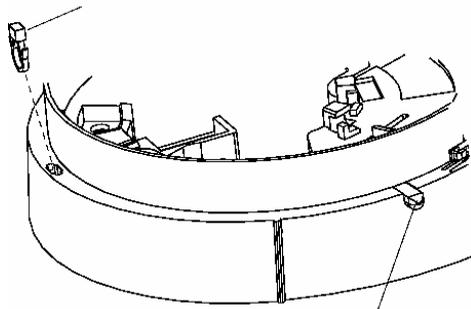

Fig. 5: Locking Device
*Note: For LPCB approval, detectors and caps must be locked into the sounder base using a locking device (Factory fitted). Ensure that the locking device is in place before fitting a detector or cap. See Fig. 5.*